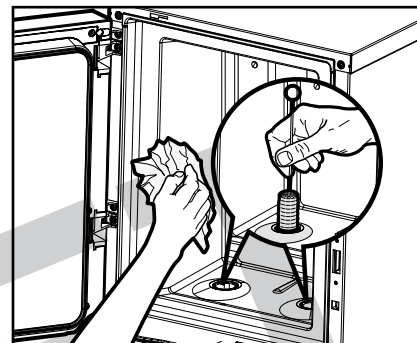

Fig. B3
5. Clean the interior of the cooling compartment (fig. B3):